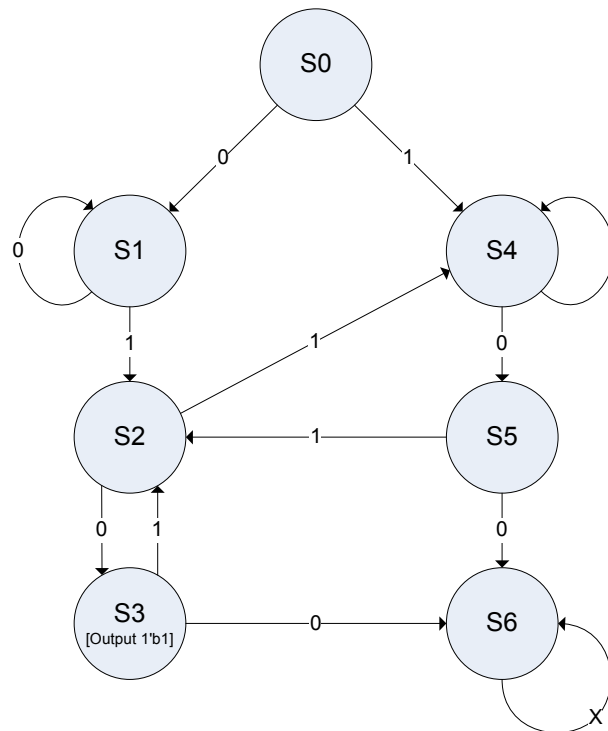

Figure 4: Sequence Detector FSM
- a. Look at the FSM in Figure 4 and try to devise a **sequence of inputs to test it completely**.
Download the **Lab4Part3.bit** file to the **CaLinx2 board**. This will program the board with a very simple circuit, namely the FSM shown in Figure 4 below. You can do this by running the iMPACT directly from the Start Menu (**Start > Programs > Xilinx ISE 6 > Accessories > iMPACT**). In the dialog boxes that appear, select **Configure Devices**, then **Slave Serial Mode** and then open the bitfile file provided.
This simple FSM is a **sequence detector**, which has the state diagram shown in Figure 4. The circuit receives a 1bit input on every clock cycle and asserts the output when it **detects the sequence 010**, as long as the **sequence 100 has never been received**. If a 100 sequence is received, the circuit halts and the only way to resume normal operation is by resetting it.